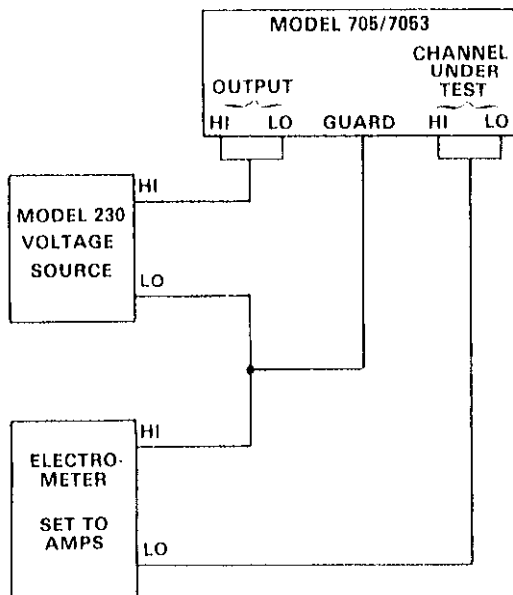

Figure 2. Model 7053 Channel Isolation Test Circuit
- A. This test measures the electrical isolation between channels on the Model 7053. Set up the circuit shown in Figure 2.